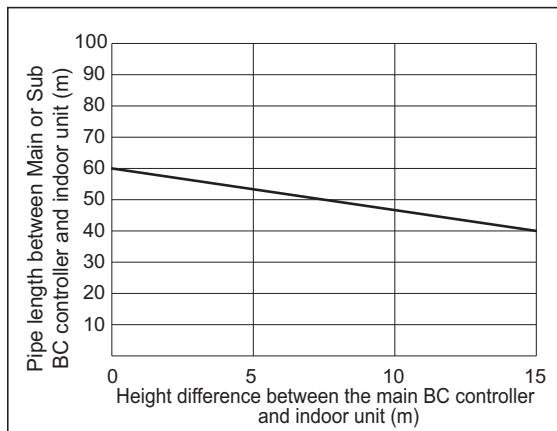

Fig. 2
\*9. When the piping length or the vertical separation exceeds the limit specified in Fig. 2, connect a sub BC to the system.
When using indoor models P140 or larger, the restrictions shown in Fig. 2 cannot be exceeded.
- \*9. When the piping length or the vertical separation exceeds the limit specified in Fig. 2, connect a sub BC to the system.
- When using indoor models P140 or larger, the restrictions shown in Fig. 2 cannot be exceeded.